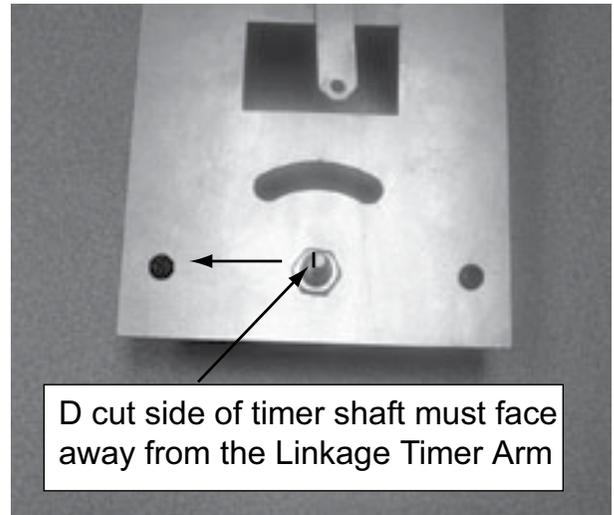

Figure 4.22
2. Install new timer using same 2 screws. It is very important that the D cut side of the timer shaft is facing the opposite side of the linkage timer arm. Figure 4.22